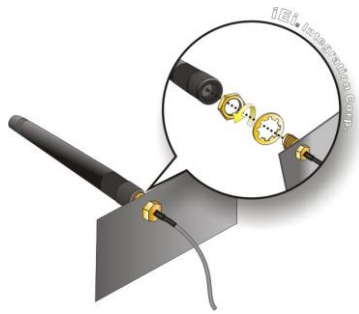

Figure 3-9: Securing SMA Connector and External Antenna Installation
Step9. Install the external antenna (Figure 3-9).